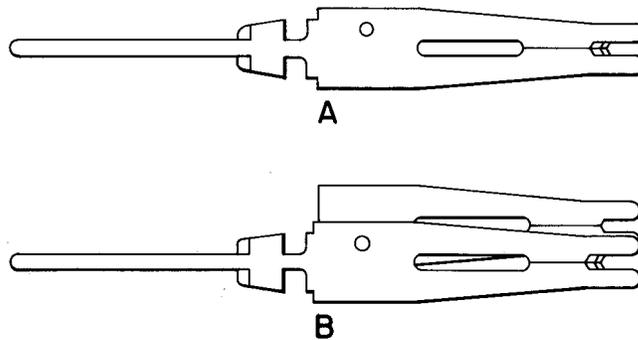

Fig. 1—Replacement Terminals
**1.03** The procedures contained herein apply to both the 66-type and 78-type connecting blocks arranged with either single or twin clip terminals. The single clip terminal used on the 66G and 78A1-64 connecting blocks is illustrated in A, Fig. 1. The twin clip terminal used on the 66H and 78B1-64 connecting block is illustrated in B, Fig. 1.
(a) Select the proper replacement terminal (Fig. 1).